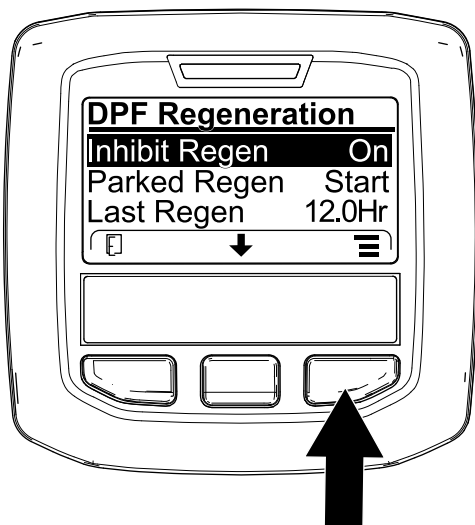
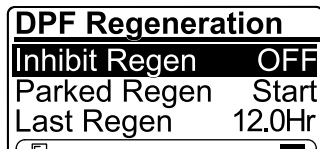

Figure 43
Figure 44
1. Access the DPF Regeneration menu, press the center button to scroll down to the INHIBIT REGEN option, and press the right button to select the Inhibit Regen entry (Figure 43).
2. Press the right button to change the inhibit regeneration setting from On to Off (Figure 43) or from Off to On (Figure 44).